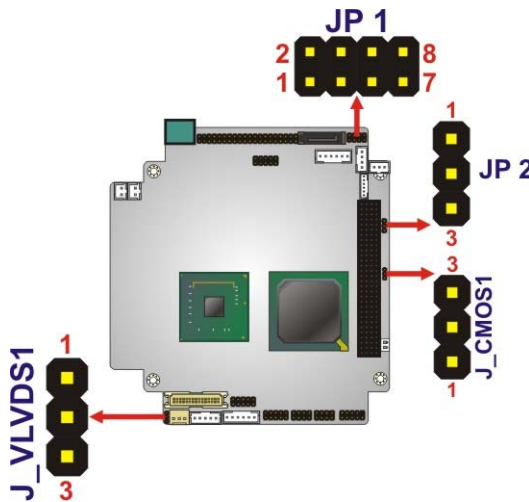

Figure 4-2: Jumper Locations
The PM-945GSE-N270 CPU board has four onboard jumpers (**Figure 4-2**).
- Jumper Location:** See Figure 4-2